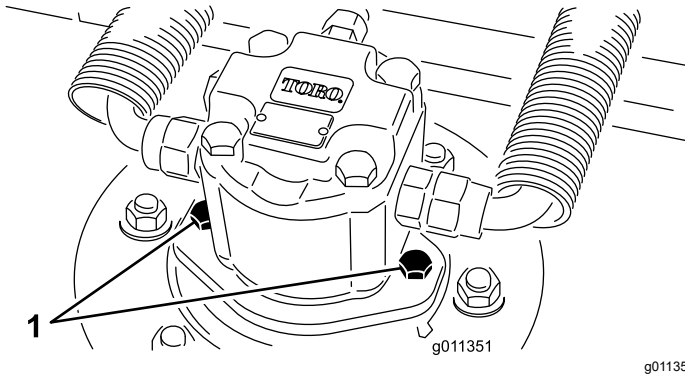

Figure 79
2. Disconnect and remove the hydraulic motor from the cutting unit (Figure 79). Cover the top of the spindle to prevent contamination.
3. Install the hydraulic motor to the cutting unit (Figure 79). Make sure that the O-ring is in position and not damaged.